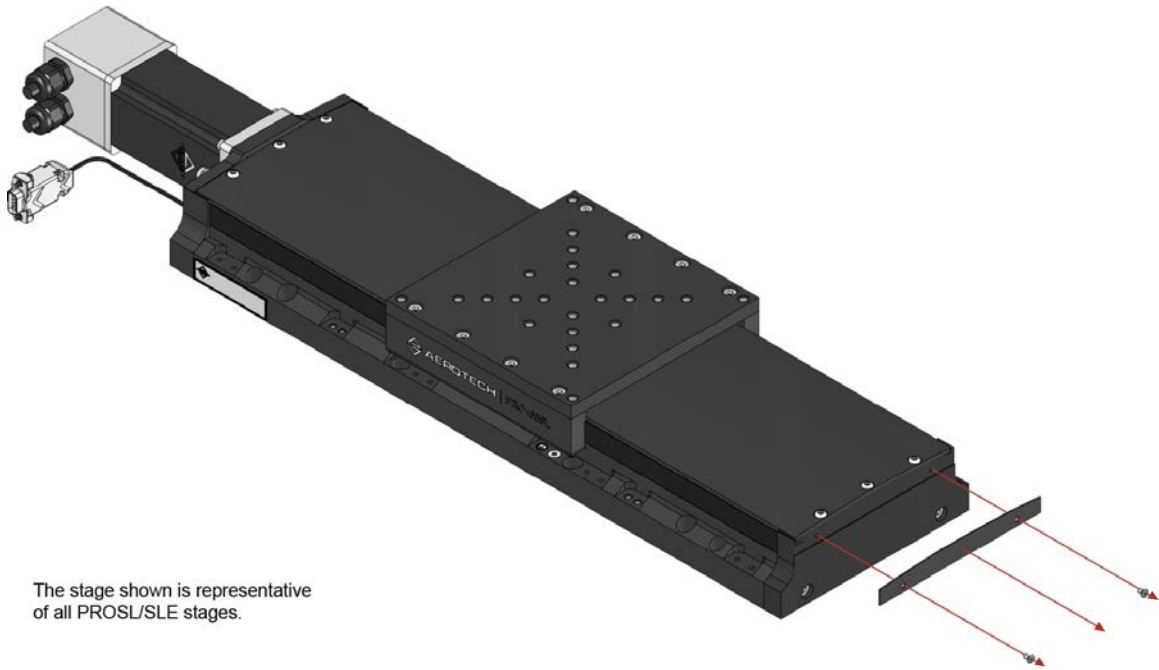

Figure 4-1: Hardcover Rear End Plate Removal
2. Remove the cover attached to the rear end plate on the side opposite of the motor (Figure 4-1).